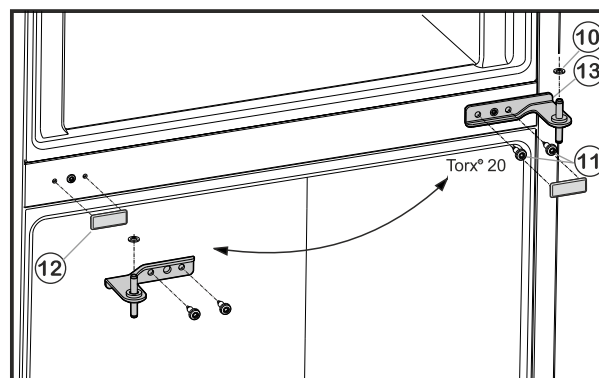

Fig. 6
- ▶ Unscrew the fastening screws Fig. 6 (11) (2 x Torx® 20) and pull the centre bearing block out of the lower door.
- ▶ Remove plastic washer Fig. 6 (10) .
- ▶ Remove the cover Fig. 6 (12) carefully.
- ▶ Re-install the cover Fig. 6 (12) on the opposite side.
- Insert the centre bearing block Fig. 6 (13) turned through 180° into the lower door and fasten firmly (**with 4 Nm**) to the new hinge side with the fastening screws Fig. 6 (11) (2 x Torx® 20).
- Refit plastic washer Fig. 6 (10).
- Set the upper door down on the centre bearing block Fig. 6 (13).